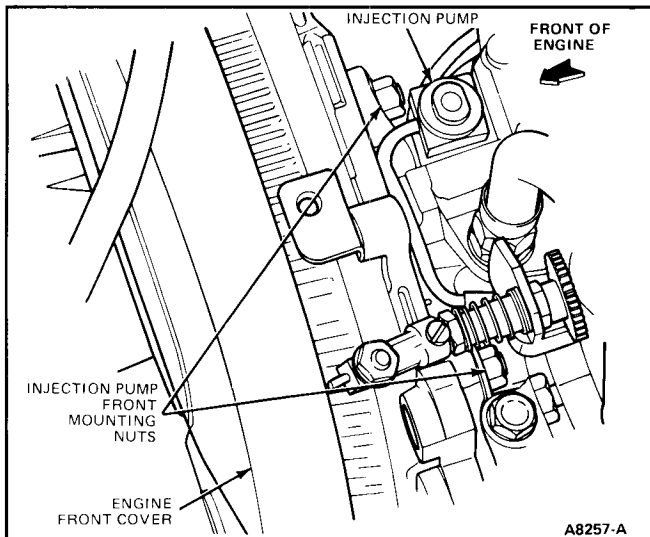

FIG. 53 Injection Pump—Front Mounting Nuts
24. Remove two nuts attaching injection pump to engine front cover, and remove injection pump (Fig. 53).